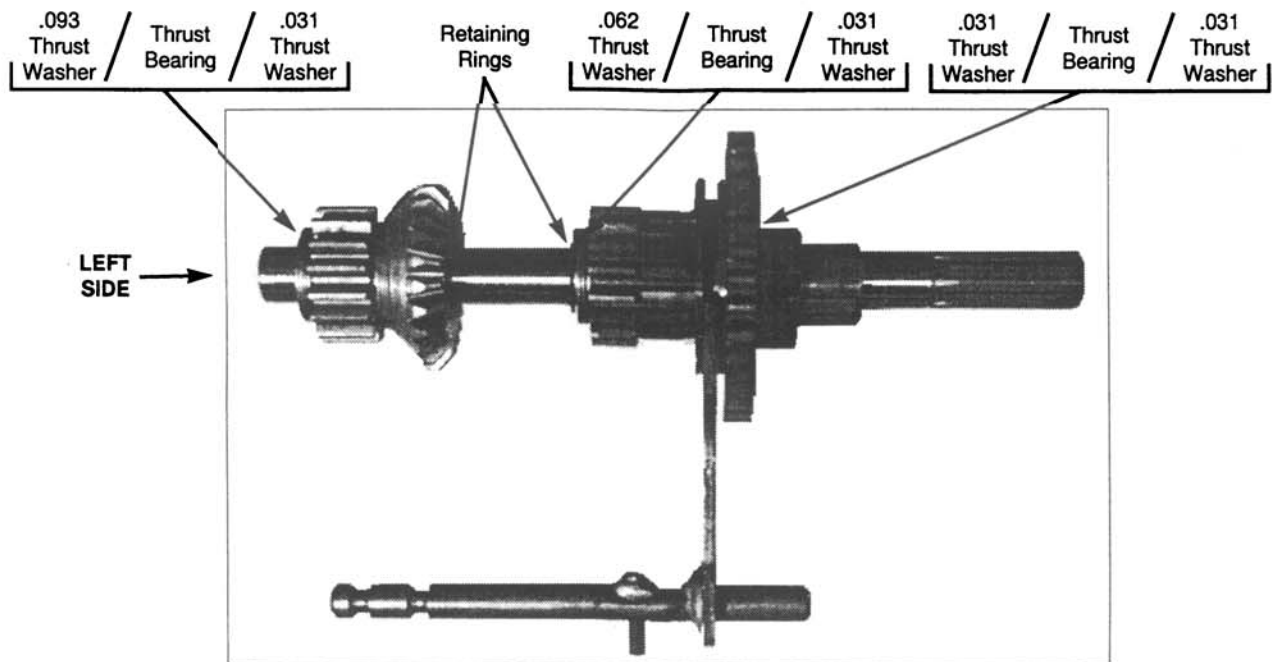

FIGURE 20 - #1 Shaft (Forward Clutch)
2. Replace any part worn or damaged. If a bearing or thrust race is damaged, replace the bearing and both thrust races. See Figures 20, 21, 22, 23, 24, 25 and 26.